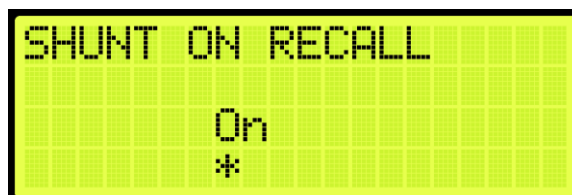

Figure 568: SHUNT ON RECALL Menu
- From the SHUNT ON RECALL menu, scroll and select On (See Figure 568).